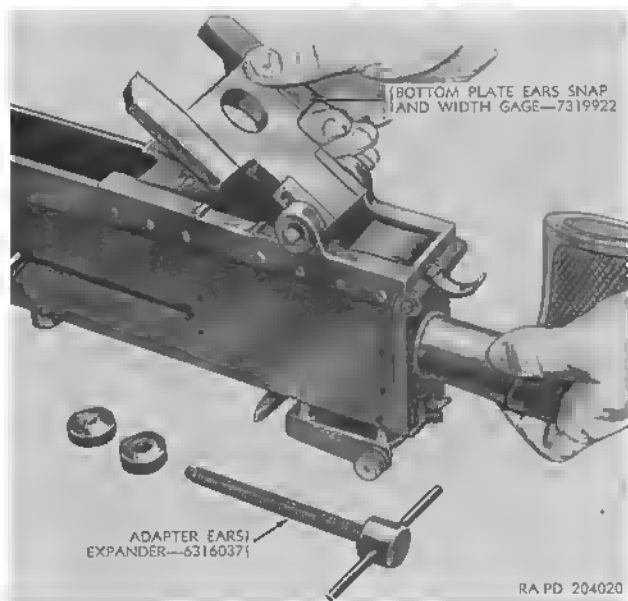

Figure 39. Checking inside width of mounting ears.
- (c) Check inside width of bottom plate mounting ears (fig. 39), using bottom plate ears snap and width gage 7319922 (figs. 6, 39, and 40). If distance between ears is too narrow, use adapter ears expander 6316037 (figs. 5, 39, and 40) to spread the adapter ears apart. Check outside width with snap end of gage 7319922. (DEPOT MAINTENANCE ONLY.)